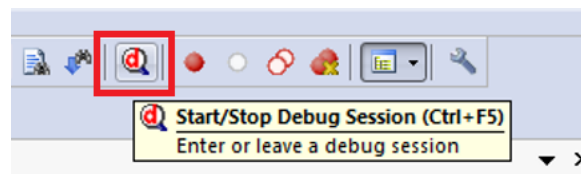

Figure 1.6: Keil IDE: Start/Stop Debug Session Button
3. Click the Start/Stop Debug Session button or press Ctrl-F5 to enter the simulator (see Figure 1.6).
7. Click the Start/Stop Debug Session button or press Ctrl-F5 to exit from the simulator (see Figure 1.6).
4. Click the Start/Stop Debug Session button or press Ctrl-F5 to enter a debug session (see Figure 1.6). This target uses the hardware ULINK2/ME Cortex Debugger. Note you should not click the Download button to load the code to the board. When you start a debug session, the debugger initialization file (i.e. `RAM.ini`) will execute the `LOAD` command to load the code to the board.
7. Click the Start/Stop Debug Session button or press Ctrl-F5 to exit from the debug session (see Figure 1.6).